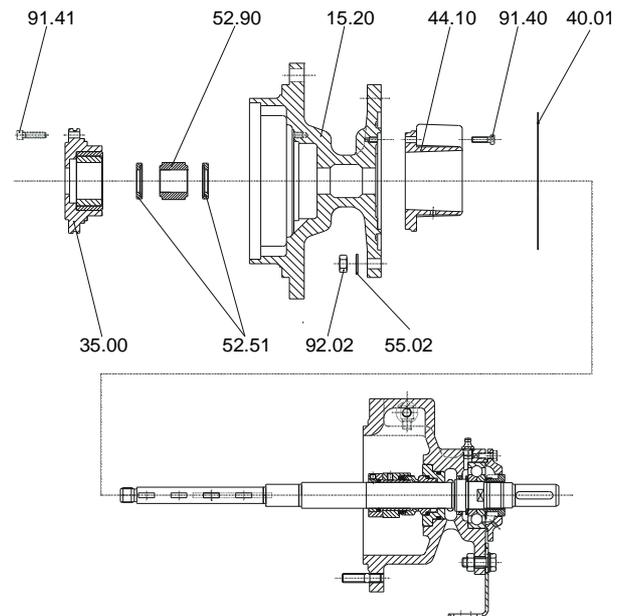

Fig. 3
8. Remove Allen screws 91.41 and dismantle bearing carrier 35.00 (lever out if necessary). (fig. 3).
9. Withdraw bearing bush 52.90 and spacer rings 52.51 from the shaft (fig. 3).
10. Loosen hexagonal nut 92.02, remove washer 55.02 and dismantle intermediate flange 15.20 (fig. 3).
11. Only if damaged, dismantle the housing for mechanical seal 44.10. To do this, unscrew bolts 91.40 and remove the housing (fig. 3).